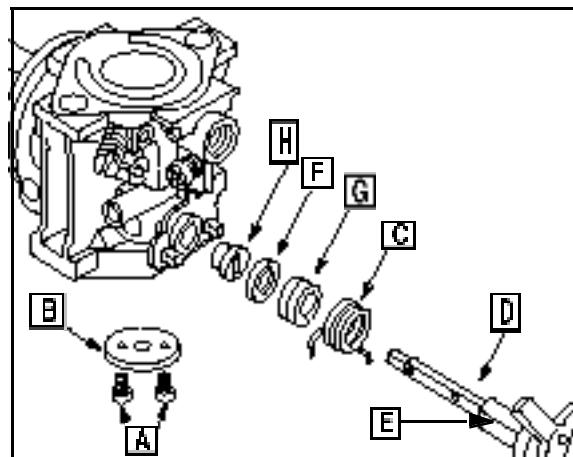

Fig. 56
8. Remove choke plate screws (A). Remove choke plate (B),
9. Unhook choke shaft spring (C) Fig. 56).
10. Remove choke shaft (D) and upper retainer (E), spring (C), washer (F), seal (G), and lower retainer (H) Fig. 56).